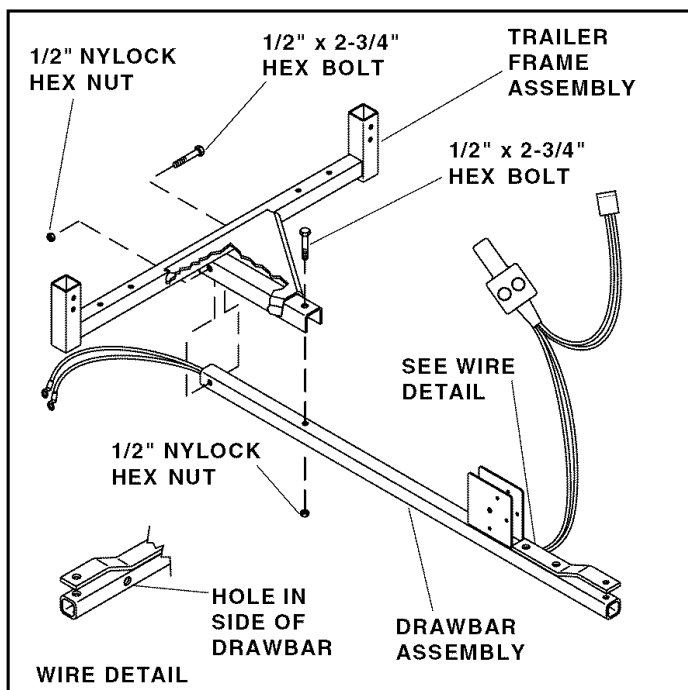

FIGURE 1
1. Insert the long wires from the switch through the hole under the hitch bracket in the side of the drawbar. Route the wires out through the rear end of the drawbar. See figure 1.
2. Attach the drawbar assembly to the trailer frame assembly using two 1/2" x 2-3/4" hex bolts and 1/2" Nylock hex nuts. See figure 1.